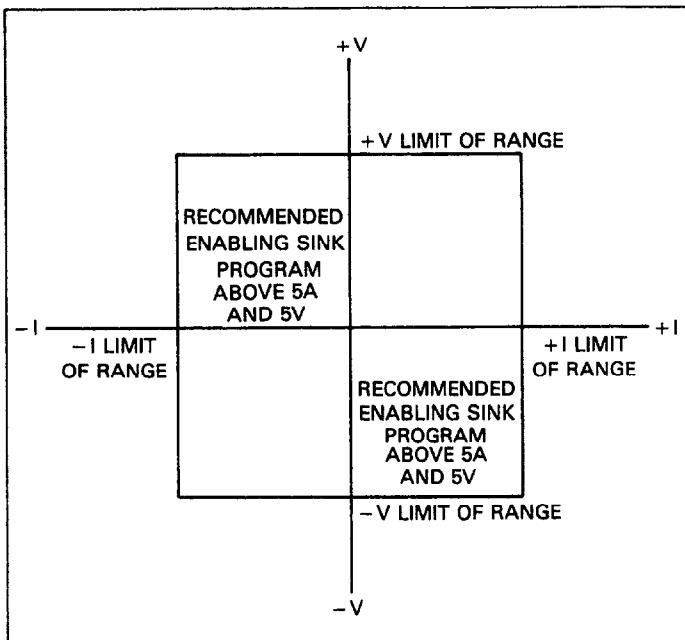

Figure 3-12. Model 228 Recommended Operating Limits
to the Model 228 by an external source. As can be seen by the graph and/or Figure 3-12, when voltage and current both have the same sign (positive or negative), the Model 228 is in the source mode.
If the voltage or current have different polarity, then the Model 228 is in the sink mode. In the sink mode, the Model 228 accepts power (dissipates) instead of providing the power. Operating the Model 228 as an active load dissipates power up to the limits shown in Figure 3-12. Of course, the limits shown in Figure 3-12 must not be exceeded.
When the Model 228 is used in the sink mode, that is, power is delivered to the Model 228 by an external power source. Care should be taken to limit the power delivered to the Model 228 as shown in Figure 3-12. If power dissipated within the Model 228 exceeds these limitations, overheating and damage to the instrument may occur. For example, if the external power source is capable of delivering greater than 1A, then the voltage across the Model 228 output terminals must be less than 100V ($100V \times 1A = 100W$).
3. Program the desired current value. In this example, the current is programmed as positive. The external source determines whether the Model 228 acts as a source or an active load. Refer to Figure 3-12 and/or the front panel COMPLIANCE graph.